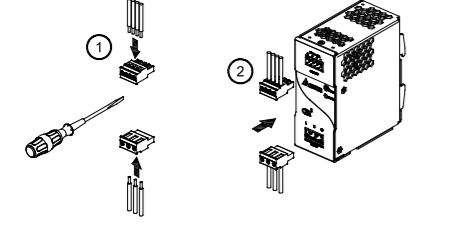

Figure 4
Caution: Must tighten wire to housing (Fig. 4 (1)) before plugging into the terminal block connection (Fig. 4 (2))